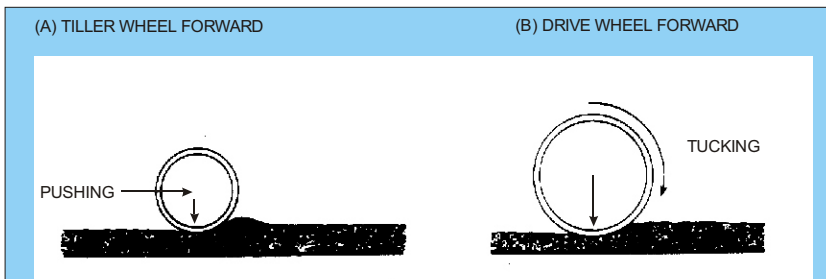

Figure 4: Forces imposed by roller (with acknowledgements to Sabita)
- the initial pass with the roller should, wherever possible, be made with the driven wheel forward, in the direction of compaction. This ensures that the asphalt material is tucked under the wheel by the turning force before it is compacted, as shown in Figure 4 below.